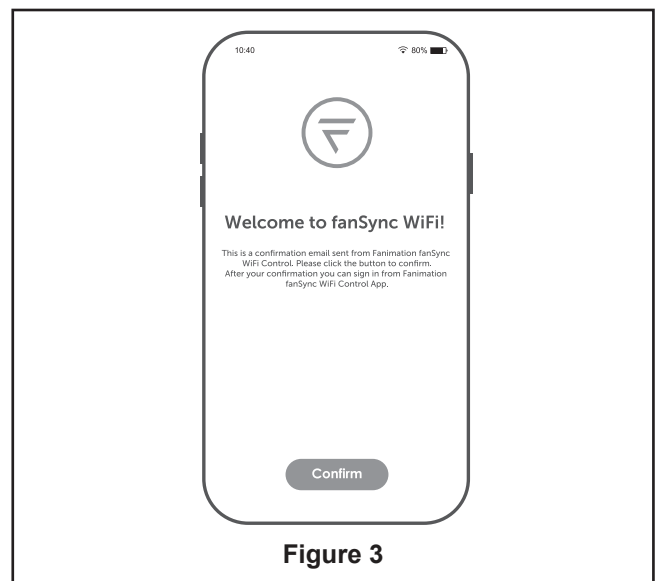

Figure 3
- ☐ 3. If you signed up using the email option, please check your email inbox to find the first time account set up email. Open the email and click the "Confirm" button. Please check your spam/junk folder if you cannot find the email. The email will come from "fansync@fanimation.com". (Figure 3)